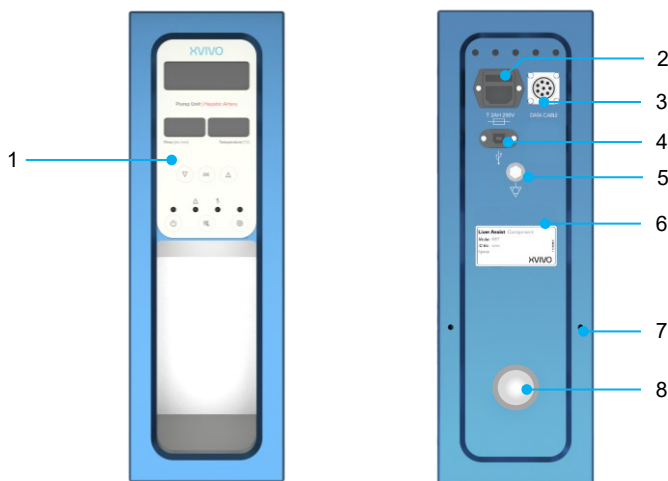
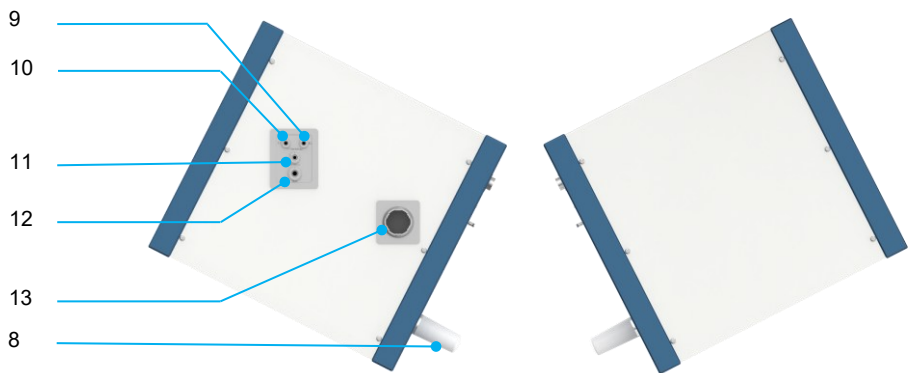

Figure 2 Front and rear view of the Pump Units
Figure 3 Right and left-hand side view of the Pump Units
The Liver Assist contains two separate Pump Units (Figure 2 and Figure 3). One Pump Unit for perfusion of the portal vein (PV) and the other for the perfusion of the hepatic artery (HA). The portal vein pump (Figure 1, right Unit) operates in a continuous mode, with a pressure that can vary from 0 to 16 mmHg according to the chosen setting. While the arterial pump (Figure 1, left Unit) operates in a pulsatile mode of 60 BPM to mimic physiological blood flow with a pressure that can vary from 0 to 90 mmHg according to the chosen settings.